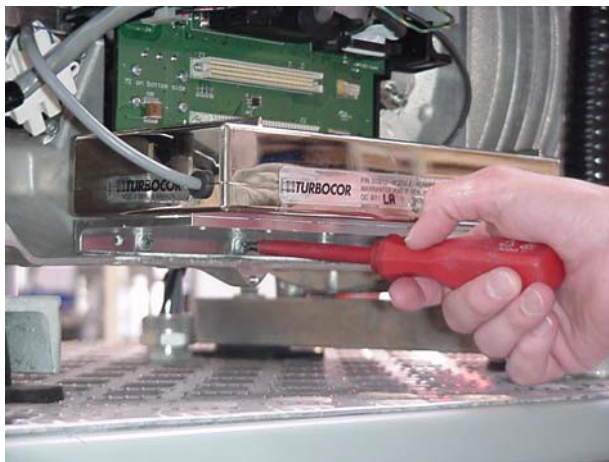

Figure 2 - Removing the PWM Amplifier
2. Remove the three (3) screws that secure the heat sink of the PWM Amplifier module to the main compressor housing. Refer to Figure 2.